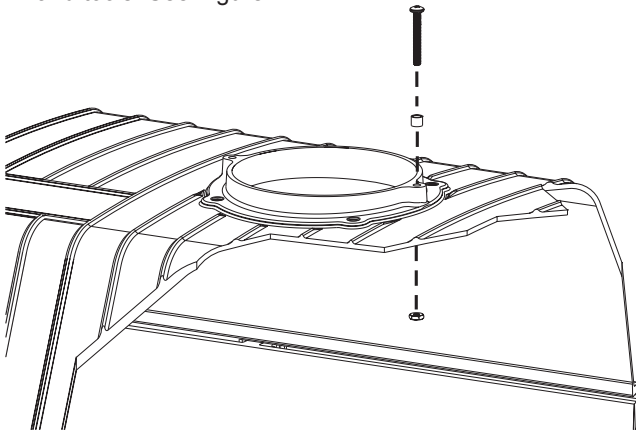

Figure 7
2. Attach vent stop using one #10-24 x 1-1/4 pan-head screw and spacer on the right side of the top vent opening. Tighten with #10-24 lock nut from underside of grill body top. Use hand tools. See Figure 7.